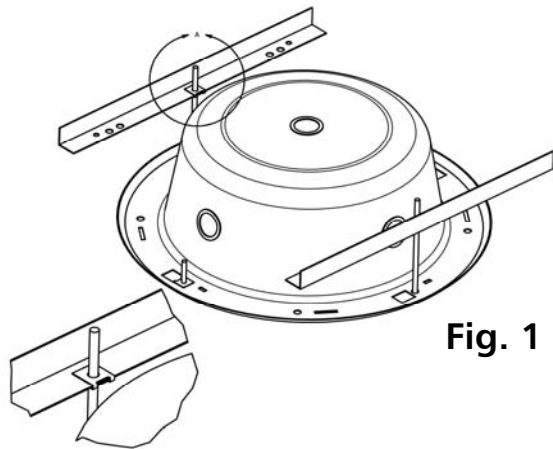

Fig. 1
- Fig. 1-Verify that both of the support channels are near the end of each mounting screw.